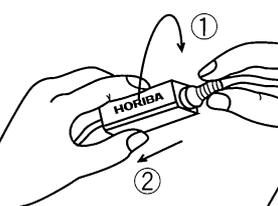

Figure 4. Assembly step (5)
- ① Return the silicone tube to its original position and close the internal solution filling opening (inner tube). (Check that the opening is completely sealed.)
- ② If body 1, body 2 and the liquid junction are dirty, wash and clean them with pure (deionized) water.
- ③ Insert Body 1 into Body 2. (Check that the O-ring is firmly sealed.)
- ④ Return the spring to the top part of Body 1.
- ⑤ Holding the rubber sleeve with your hand, twist the electrode cap approximately 90 degrees, and remove the rubber sleeve from the electrode cap section. (Figure 4).
- ⑥ Arrange the electrode cap so that the HORIBA logo is facing in the same direction as the internal solution filling opening (outer tube), and attach the cap to Body 2.
- ⑦ Hold the electrode cable (connector side) in your hand, and move the rubber sleeve close to the electrode cap. After positioning the rubber sleeve so that it will fit in the hole of the electrode cap, attach it to the electrode cap.
- ⑧ Fix the rubber sleeve in place by twisting it approximately 90 degrees.
- ⑨ Using the syringe, supplement the internal solution manufactured in step 4. (1).
- ⑩ Follow step 5. (6) to start the outflow of the internal solution from the liquid junction.
- ⑪ Store according to the steps given in item 7. "Short-term storage".